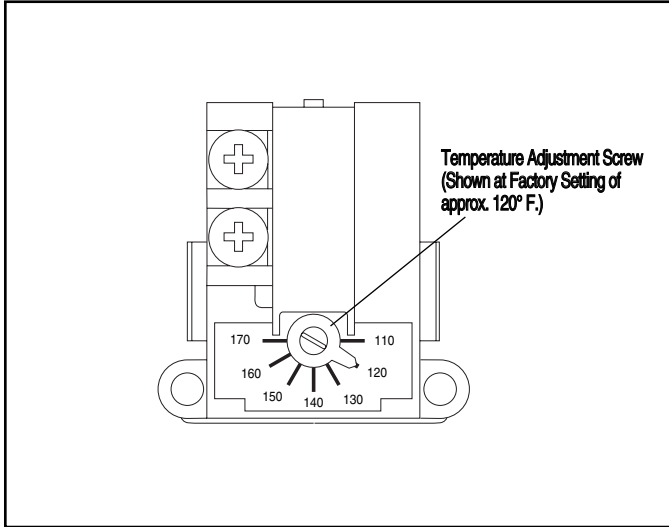

Figure 13 — Lower Thermostat temperature adjustment.
- B. Remove the four (4) screws securing the thermostat access panel and the two (2) thermostat insulation pads, exposing the thermostat. The plastic personnel protector should not be removed.
- C. With a small screwdriver, adjust the thermostat setting. This thermostat is marked in degrees from 110°F to 170°F. The thermostat is factory set to the 120°F position (the recommended setting). (Refer to Figure 13).